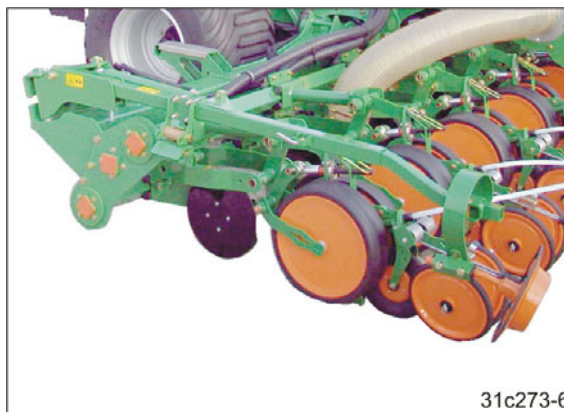

Fig. 223
2. Keep actuating the *yellow* tractor control unit until both track markers are resting against the implement sections (see Fig. 223).